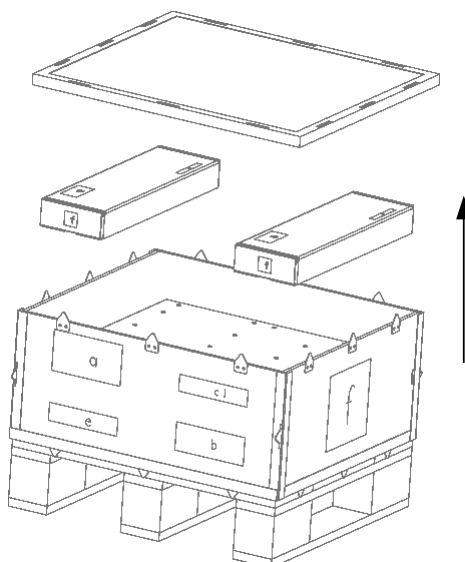

Figure 2-4 Unpacking cardboard box (20kVA)
2. Dismantle the cover plate of the cardboard box, and remove the UPS, as shown in Figure 2-4.